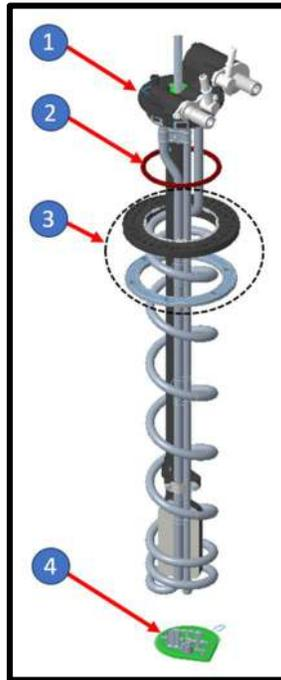

Figure 2.1 Replaceable Parts List
- Figure 2.1 Replaceable Parts List 6
- 1) Ensure the gasket mounting surface (refer **Figure 2.1**) on the tank is clean. Place the gasket on the tank by aligning the holes. Gasket orientation and side are not critical.